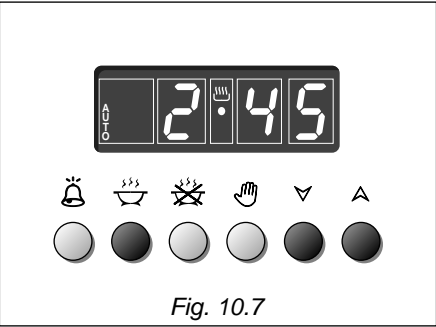

Fig. 10.7
- 1. Set the length of time you need to cook the food by pushing the  button and the  button to advance, or  to go backwards (Fig. 10.7). This sets the desired "stop" time.